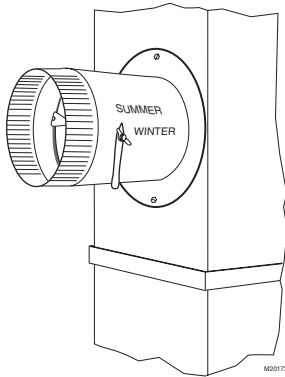

Fig. 6. Installing the starter collar.
11. Assemble the summer shutoff damper into the starter collar. Verify that the damper rotates freely between the open and closed positions. Make sure handle will be accessible. Mark the damper closed position as summer and the open position as winter. See Fig. 6.